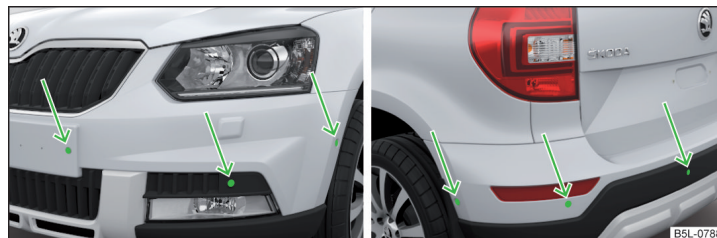

Fig. 143 Installation position of the sensors on the left side of the vehicle: front/rear
- Keep the system sensors » Fig. 143 on page 131 clean, snow- and ice-free and do not cover with any objects of any kind, otherwise the system functioning may be impaired.
The system uses ultrasound waves to calculate the distance between the bumper and an obstacle. The ultrasonic sensors are, depending on vehicle equipment, located in the back or in the front bumper » Fig. 143.